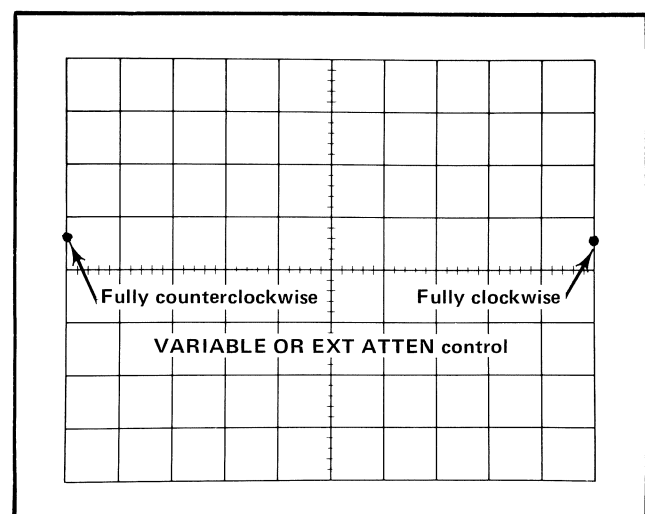

Fig. 6-3. The correct dot range of movement for MANUAL SCAN operation (Step 2).
b. Adjust the SWEEP CAL and the HORIZ POS controls (front panel screwdriver adjust) so the dot moves from graticule line zero to graticule line ten as the VARIABLE OR EXT ATTEN control is turned from the fully counterclockwise position to the fully clockwise position. The SWEEP CAL control sets the distance the dot moves, and the HORIZ POS control positions the dot range of movement on the CRT face. The two controls interact. See Fig. 6-3.